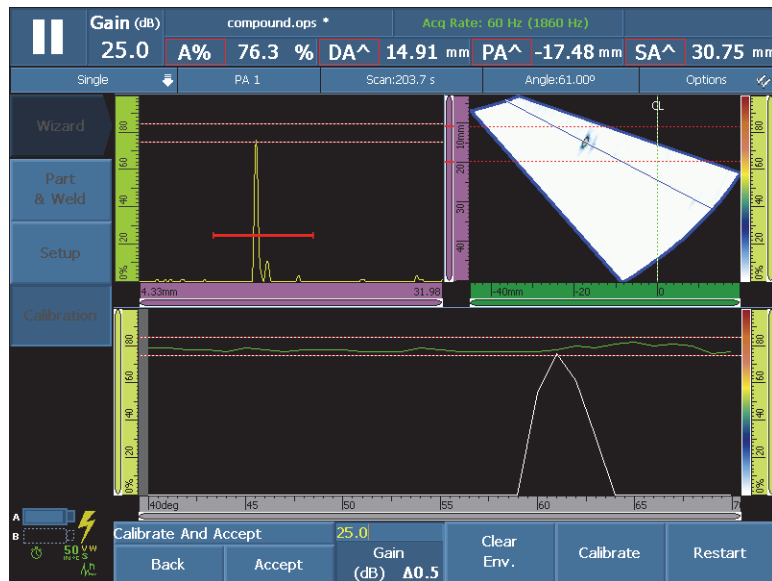

Figure 5-14 Building the envelope for the sensitivity calibration
- a) Carefully move the probe back and forth along the calibration block and over the reflector to build a smooth signal envelope with values in the 0–100 % range for all angles/VPA (see Figure 5-14 on page 131).